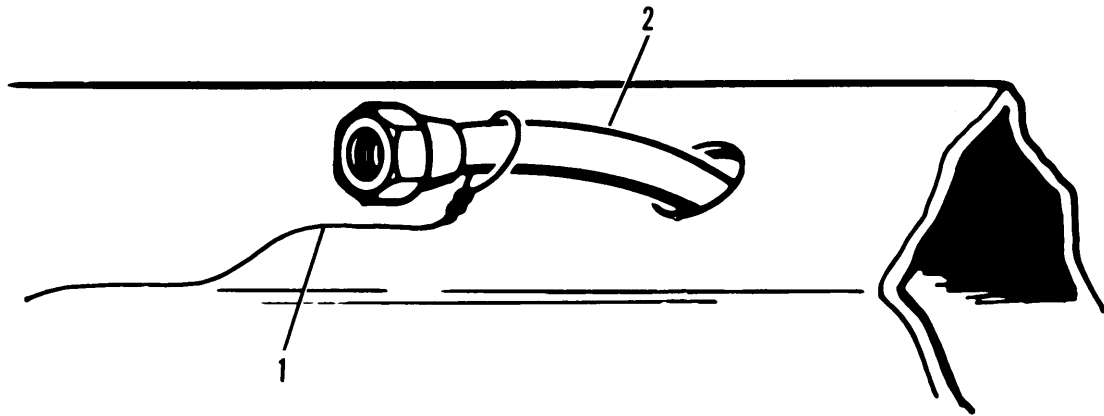

Figure 4-30. Air Lines
(b) Tie a length of lockwire (1, fig. 4-30) to one end.
(2) Long air lines.
- (a) Tie the length of lockwire (1, fig. 4-30) that was used during removal to one end of the air line (2).
- (b) Feed the air line (2) through the frame while carefully pulling the Lockwire (1).
- (c) Connect the air line (2) end.
(3) Close drain cocks.
(4) Pressurize air brake system.
(5) Check for leaks (para. 4-30).